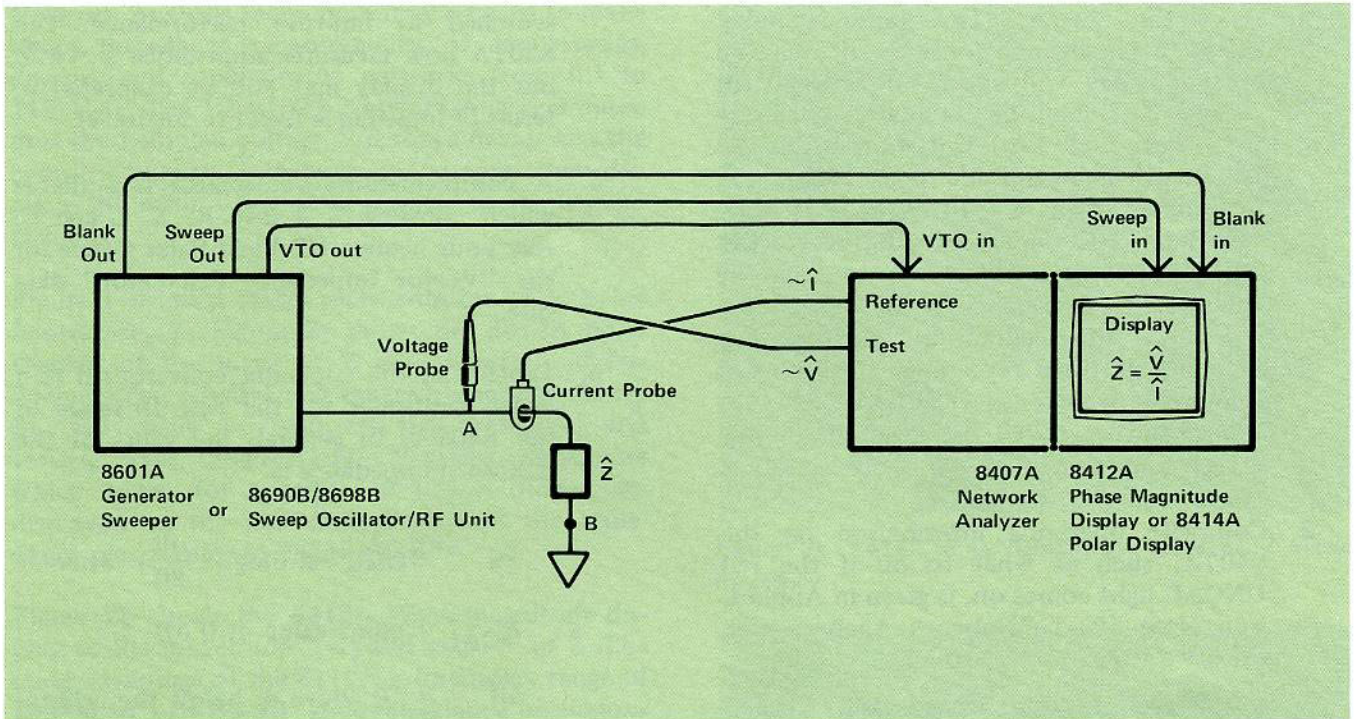

Figure 8. Setup for Making Swept Impedance Measurements with the 8407A.
Set up the equipment as shown in Figure 8. Measure the voltage across the load by using either a tee at point A or probing directly with a probe from the 11654A Passive Probe Kit.
1. Place a known value of impedance in the position shown for \hat{Z} in Figure 8.